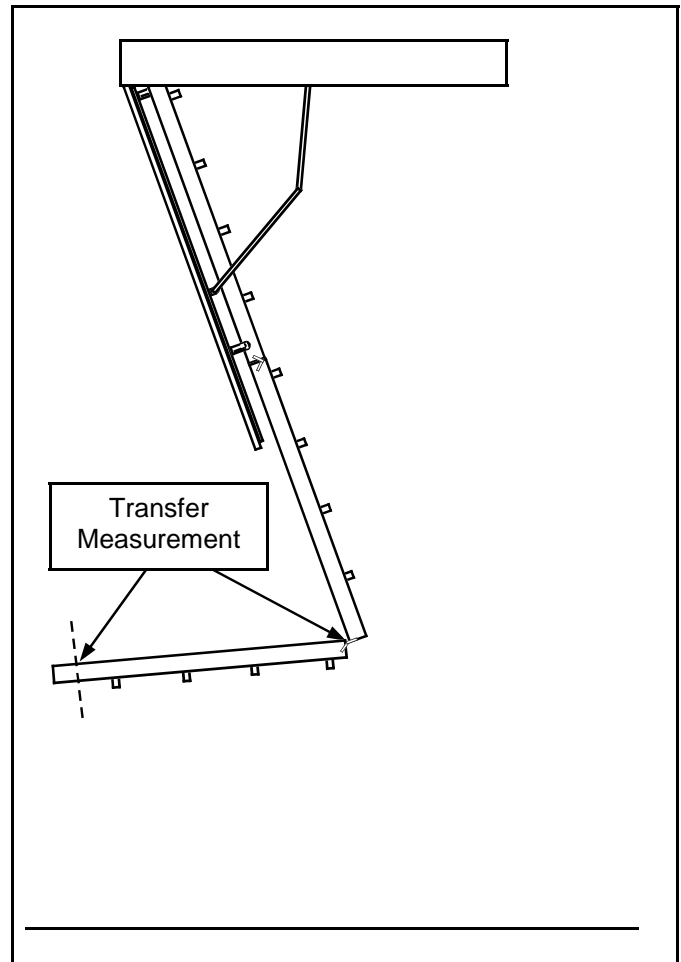

Figure 10
3. Slide rubber bumper off stair and transfer measurement to the back side of the section, Figure 10.